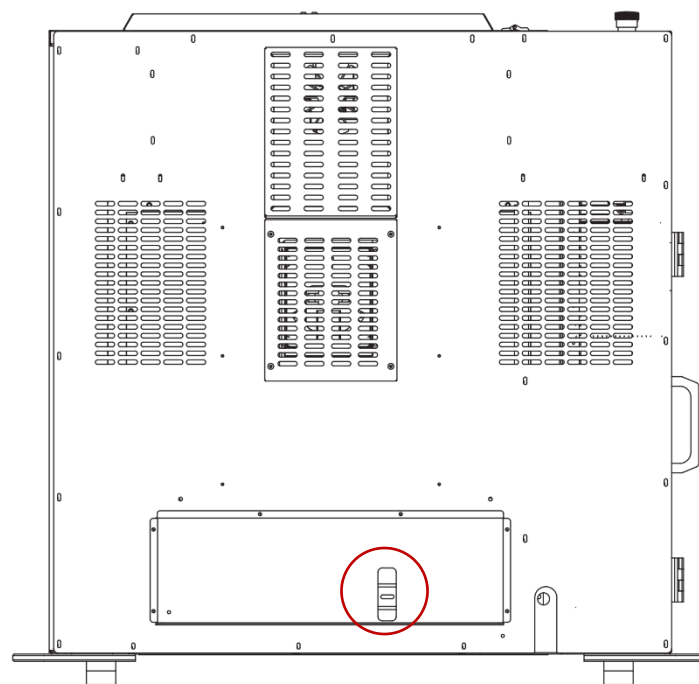

Fig. 55 Location of main switch (fuse)
4. Switch the fuse located on the printer's back wall to the ON position (fig. 55).